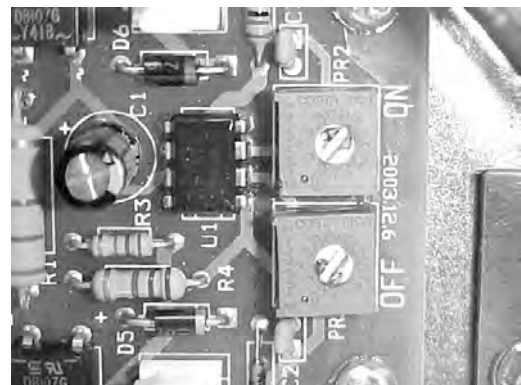

Figure 3. Timer Board Settings Reset
4. Remove screws securing white reflector panel and gain access to electrical box. Locate timer board and reset agitation timer to 0.5 seconds ‘ON’ and 3 hours ‘OFF’ (see Figure 3).